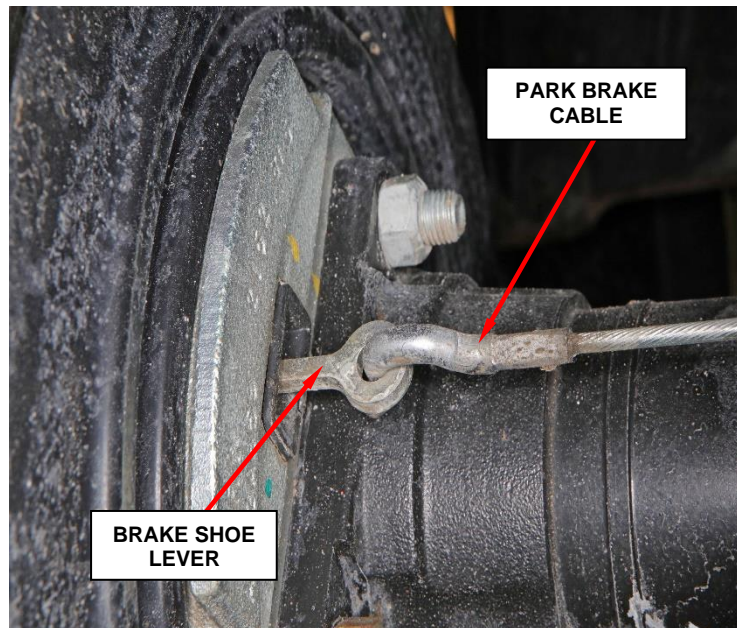

Figure 4 – Brake Shoe Lever
6. Disconnect the park brake cable from the brake shoe lever (Figure 4).
6. Insert and engage the park brake cable to the support plate (Figure 4).